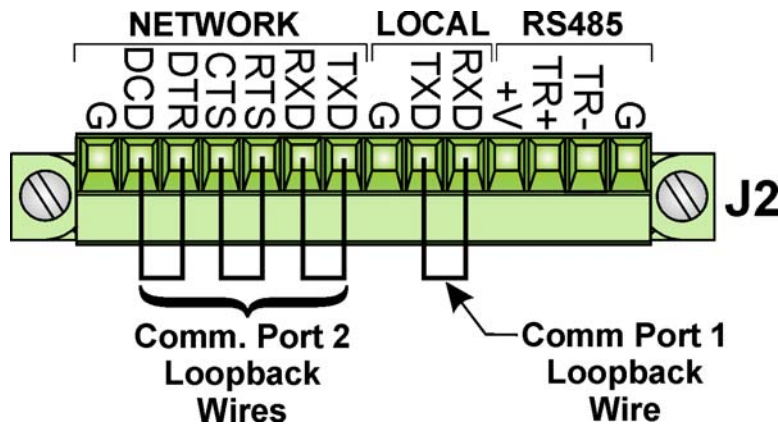

Figure 5-7. COM1 & COM2 RS-232 Loop-back Plug/Wires
- Port 1 - RS-232 uses a single loop-back wire. See *Figure 5-7*.
- Port 2 - RS-232 uses three loop-back wires. See *Figure 5-7*.